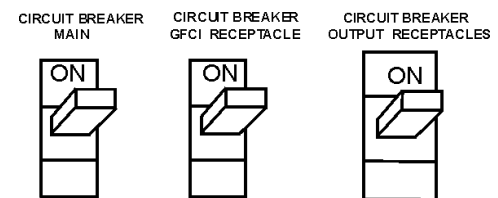

Figure 29. Main and GFCI Circuit Breakers
18. Turn the MAIN, GFCI and LOAD circuit breakers to their ON position (Figure 29).